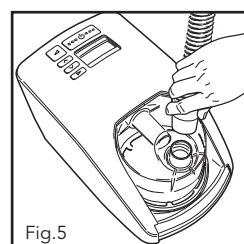
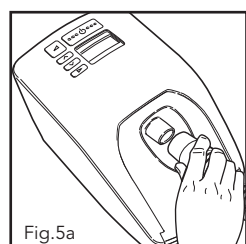

Fig.5
Fig.5a
4. One end of the tube has a white plastic connector. Push this onto the outlet on top of the chamber (Fig.5) or CPAP outlet (Fig.5a).